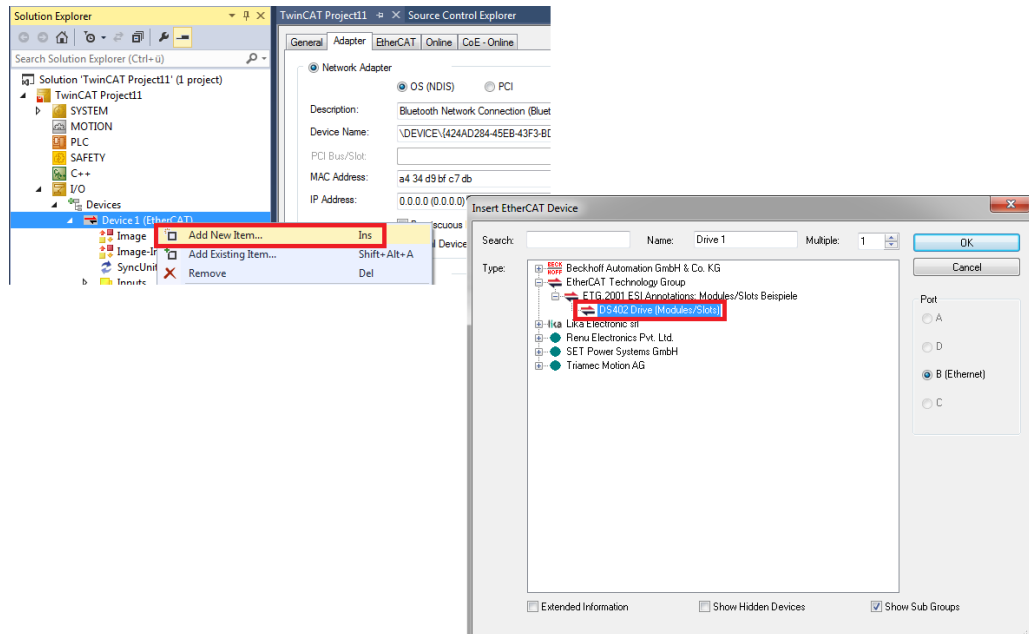

Figure 6: insert an EtherCAT slave device
- b. Click with the right mouse button on the master device (or on an already configured slave), and add a new slave device (Figure 6).